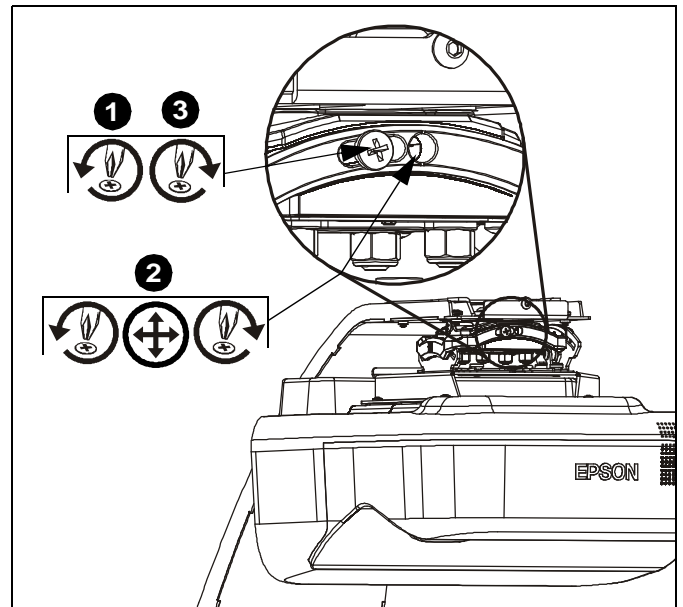

Figure 15
1. Loosen roll adjustment locking screw using a #2 Phillips screwdriver. (See Figure 15)